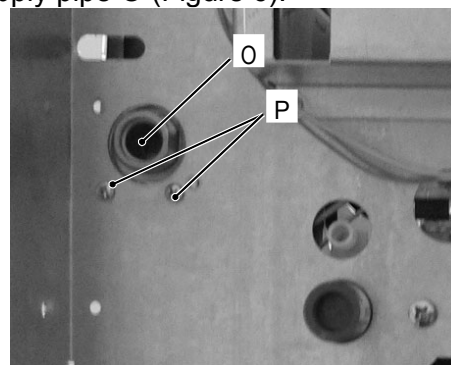

Figure 6
- 3) Turn off the gas supply and remove the gas supply pipe O (Figure 6).
- 5) Loosen the screws P (Figure 6).